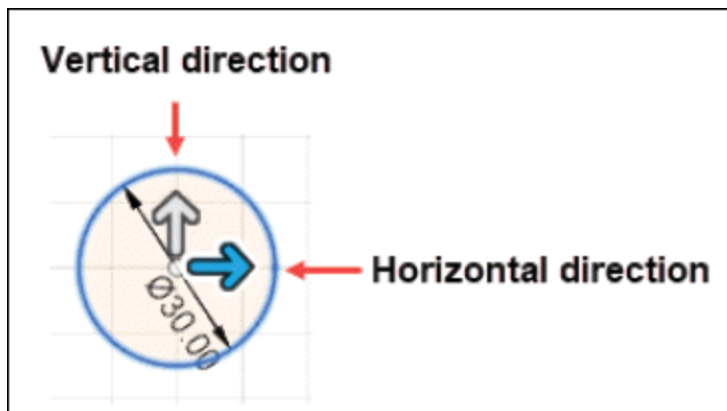

Figure-61. Rectangular pattern direction
- Click on **Select** button of **Direction/s** section and select the reference lines for directions of rectangular pattern. If you do not select reference lines then patterns are automatically created along horizontal and vertical axes; refer to Figure-61.